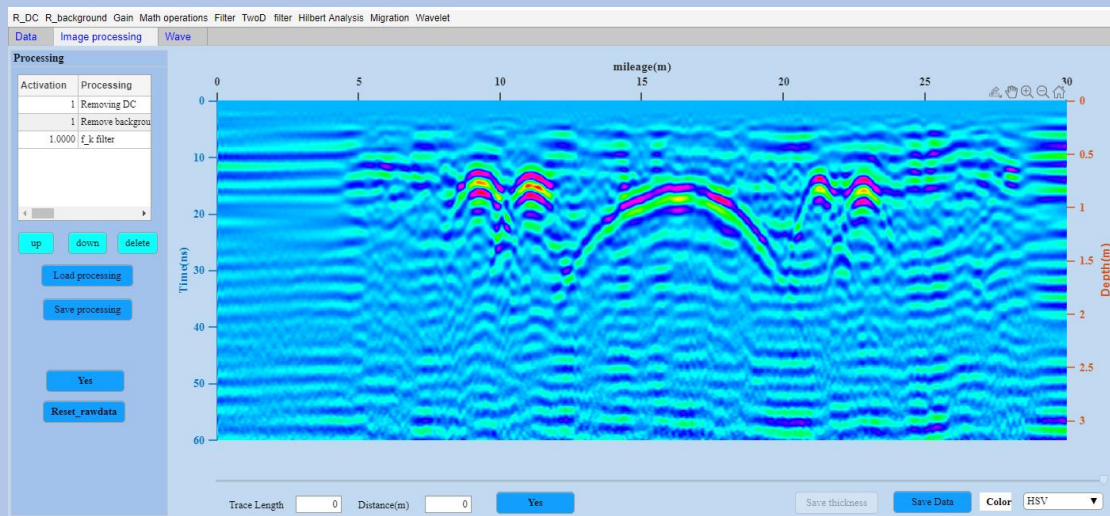

Figure 8.6 Processing results of Case1
(5) Click Yes to complete the data processing and adjust the color to obtain the processing result as shown in Figure 8-6.